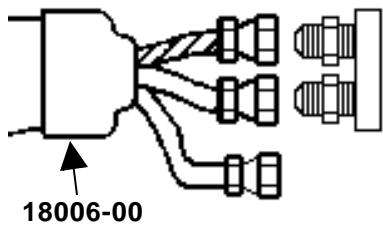

Fig. 7
6. Attach Material Hose Fittings at one end of Whip Hose, P/N 18006-00, to corresponding fittings on Hose Junction block. (see Fig. 7)